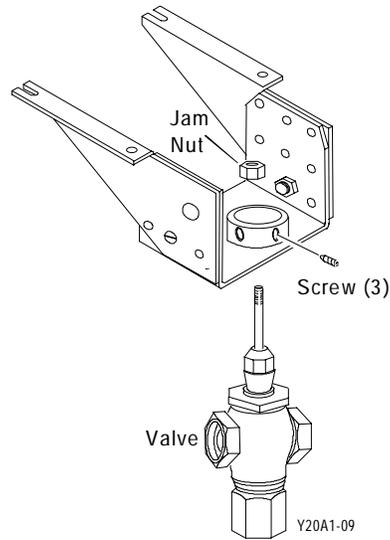

Figure 9: Mounting Honeywell Yoke
2. Insert the three screws into the mounting bracket assembly as shown in Figure 9.